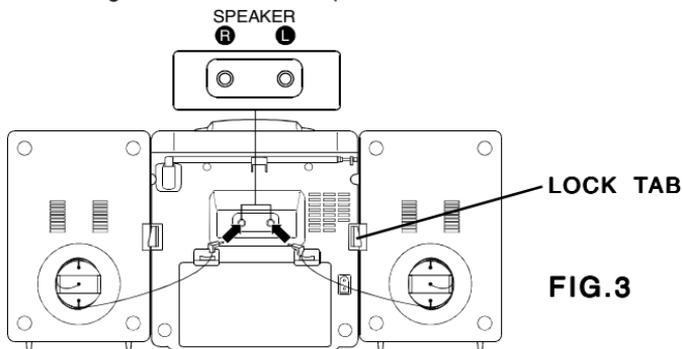

FIG. 3
6. Carefully unwind the speaker wire from behind each speaker box and plug the right plug into Speaker Jack R, also plug the left plug into Speaker Jack L (as shown in FIG. 3). Wrap the remaining wire behind each speaker box.